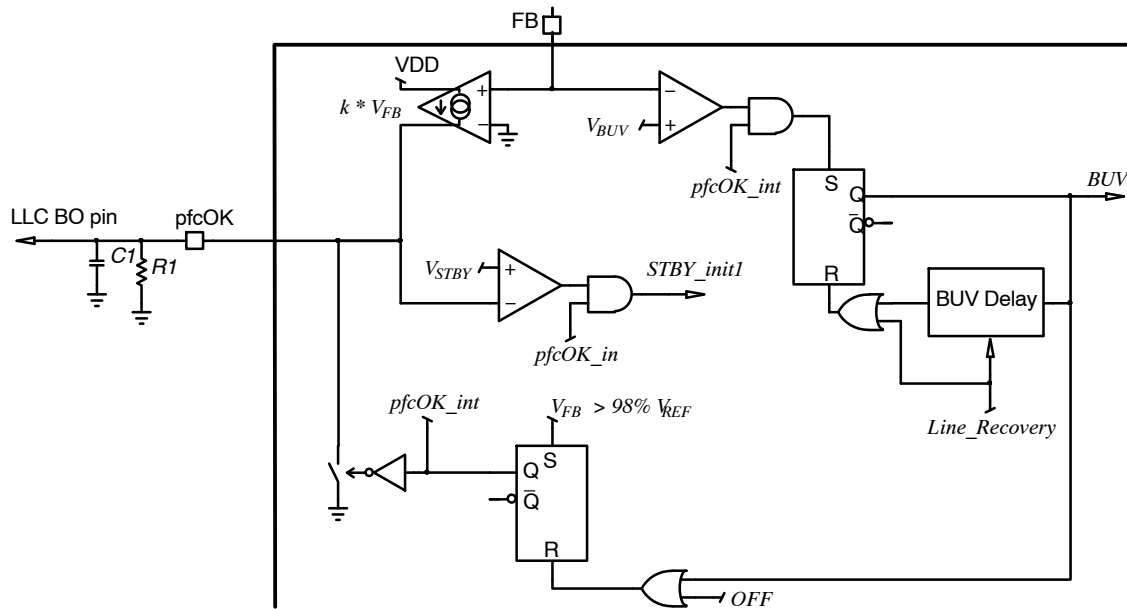

Figure 17. *pfcOK* Block
Practically, the *pfcOK* pin is grounded when the PFC stage enters operation and remains in low state until the output voltage has nearly reached its nominal level (practically when V_{FB} reaches 98% V_{REF}). At that moment, the *pfcOK* pin sources a current proportional to the feedback voltage ($k \cdot V_{FB}$). See Figure 17. Placing an external resistor between the *pfcOK* and GND pins, we obtain a voltage V_{pfcOK} which is proportional to the bulk voltage and can serve as a feedforward signal for the downstream converter. k typical value is 10 $\mu\text{A/V}$ so that the *pfcOK* pin typically sources 25 μA when the FB voltage is 2.5 V (regulation level).
The high voltage (HV) pin is a multi-functional pin, which in addition to the start-up current source, provides access to the brownout, line sag, line range detectors and X2 capacitor discharge. The brownout / line-sag detector detects too low line levels and the line range detector determines the presence of either 110 V or 220 V ac mains. Depending on the detected input voltage range, the NCP1618 internally adjusts device parameters to optimize the system performance. Line and neutral are diode “ORed” before connecting to the HV pin as shown in Figure 17. The diodes prevent the pin voltage from going below ground.
- Resets the BUV timer. It is because a long line-sag event is likely to cause a BUV detection. When a BUV fault is detected, no restart is possible until the BUV timer has elapsed. If a BUV fault is detected during a line-sag sequence, we want operation to be resumed as soon as the line recovers (see Figure 17).